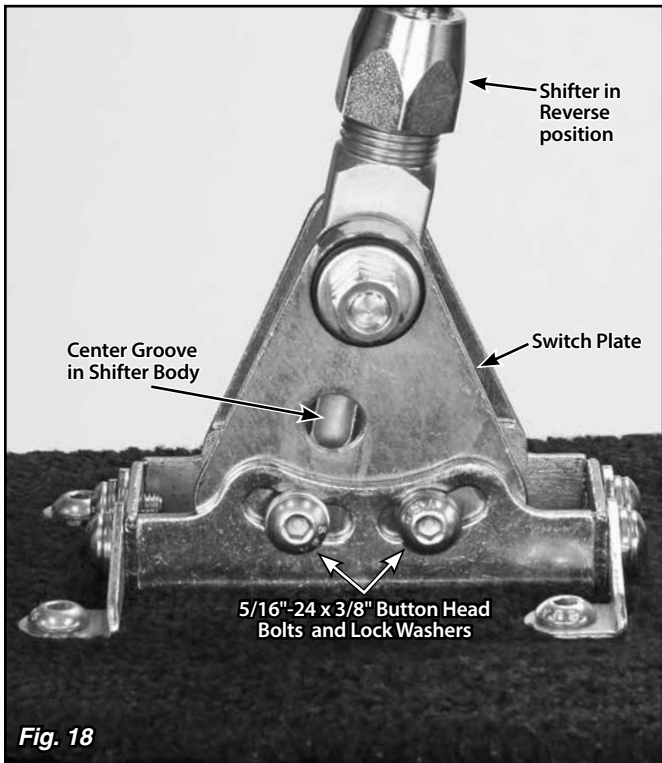
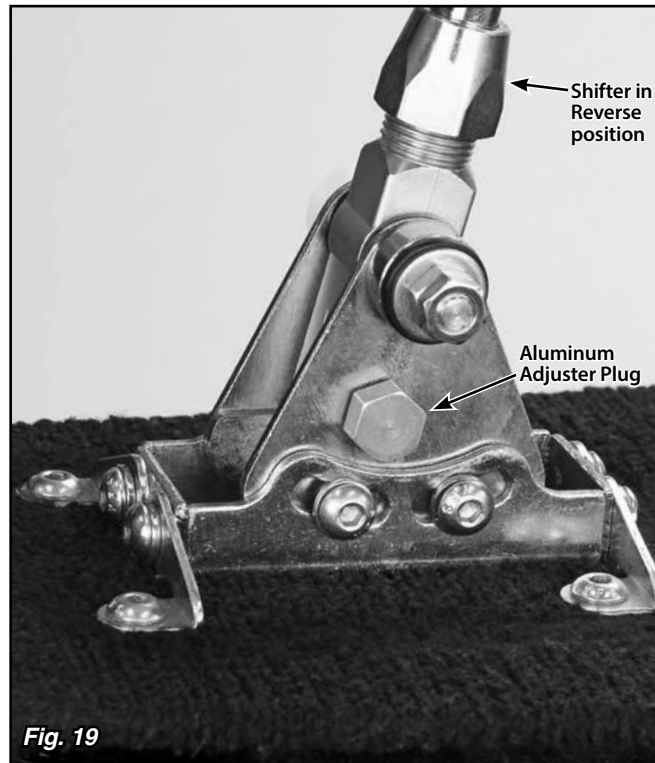

Fig. 18
Fig. 19
**Step 25:** Put the shifter into the Reverse position. Reposition the switch plate so that the hole in the switch plate lines up with the center groove in the shifter body. **Fig. 18** Screw the provided aluminum adjuster plug into the neutral safety switch opening. Wiggling the switch plate slightly forward and back while you are screwing the aluminum adjuster plug in will help get the shifter body centered on the adjuster plug. **Fig. 19**